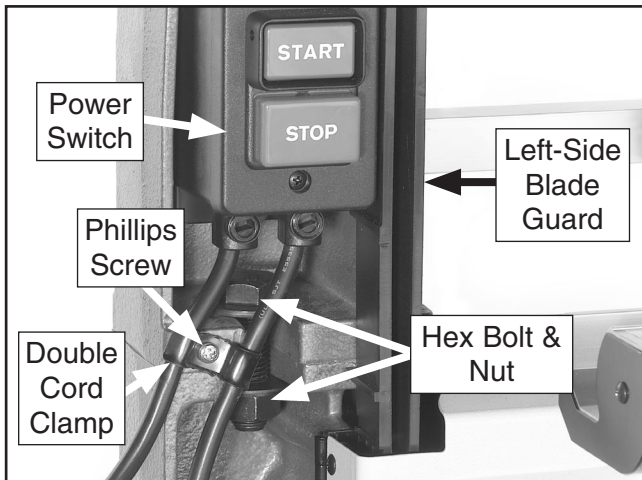

Figure 2. Components surrounding riser block.
3. Remove the left-side blade guard (**Figure 2**). It is held in place with one screw at the top and one at the bottom.
4. Taking care not to disconnect any wiring, remove the power switch and the double cord clamp (**Figure 2**). Let the switch hang to the side for now.
5. Remove the hex nut and bolt shown in **Figure 2**. With help from another person, lift the upper arm off the base casting.